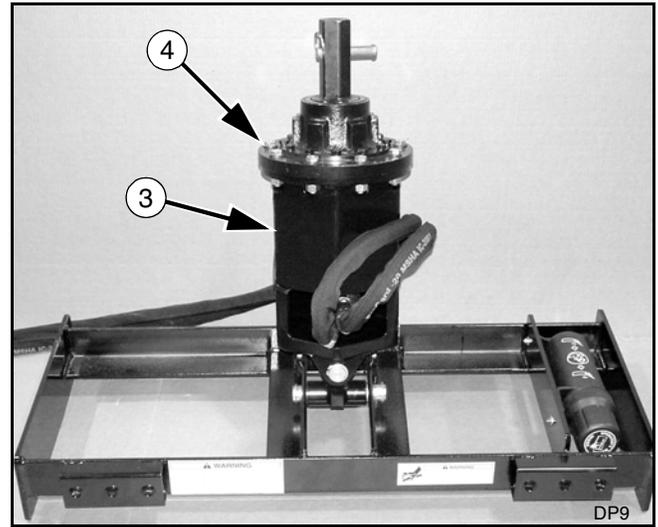
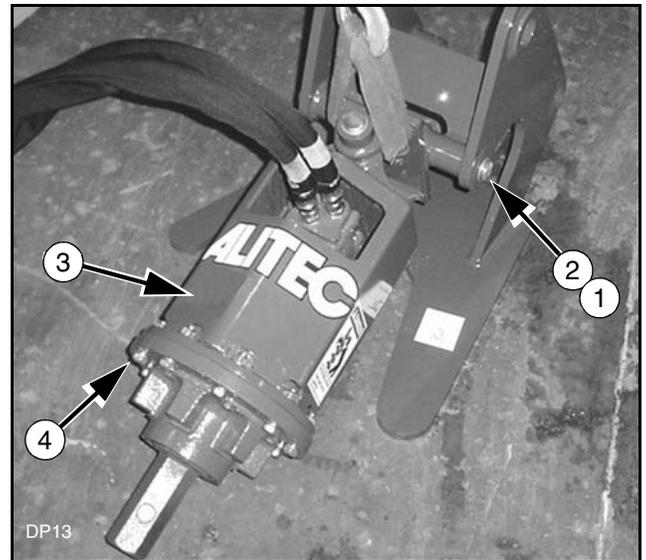

Figure 11. Skid Steer
Figure 12. Backhoe
3. Position the auger on the backplate with the auger head pointing up as shown in Figure 11 for skid steer. For backhoe, position as shown in Figure 12.
4. Use a hoist to support the auger head (3).